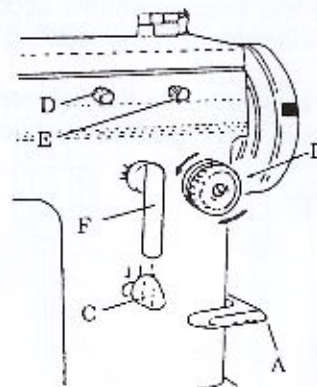
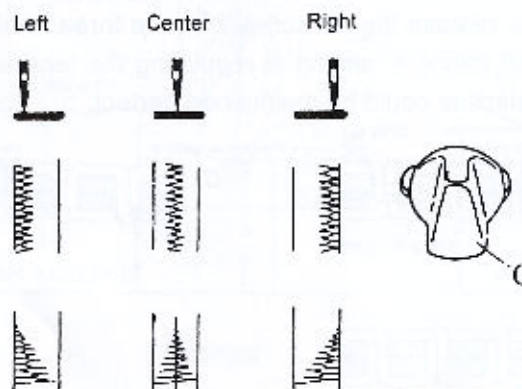

Figure 12
Figure 14
Adjustment of vertical needle distance (see Figure 12)
Seen in the Figure 12, if the single-sided curved handle C is set to the predicted position, the proper stitchings can be effected (also see Figure 14)
11. Adjustment of horizontal needle distance (see Figure 12)